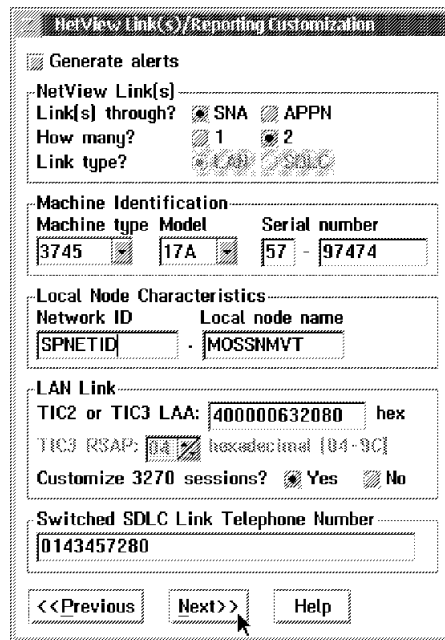

Figure 13-2. NetView Link/Reporting Customization
Local Node Network ID (Figure 13-2 on page 13-3)	Partner network ID (Step 13 on page 13-9) and Network ID (Step 14 on page 13-9)
TIC2 or TIC3 LAA (Figure 13-2 on page 13-3)	LAN Destination address (Step 13 on page 13-9)
TIC3 RSAP (Figure 13-2 on page 13-3)	Remote SAP (Step 13 on page 13-9)
Step 5. Record the values in the **Network ID**, **TIC2 or TIC3 LAA**, and **TIC3 RSAP** fields (see Figure 13-2 and refer to Table 13-1 on page 13-2). Then click **Next**.